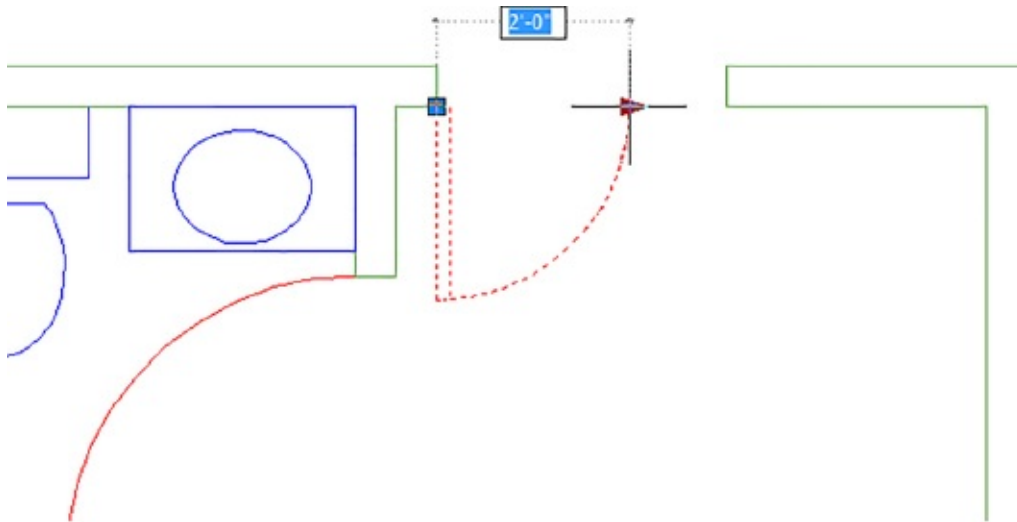

FIGURE 17.15 The Door block with its grips exposed
1. Pan your view so that you can see the entry door clearly, as shown in Figure 17.15.